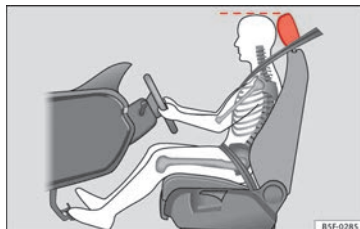

Fig. 2 Correct head restraint position for the driver.
- Adjust the head restraint so that its upper edge is at the same level as the top of your head, or as close as possible to the same level as the top of your head » **Fig. 2.**